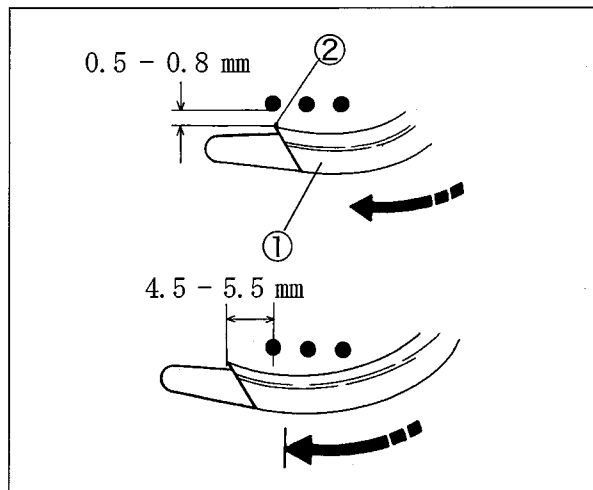

Fig. 44
- (2) Make the clearance between the left needle and the hook ② of the spreader ① to 0.5 - 0.8 mm. (Fig. 44)
- (3) Make the clearance between the center of the left needle and the hook ② to 4.5 - 5.5 mm when the spreader ① is at the extreme left. Then tighten the screw ④ securely. (Figs. 44 and 46)